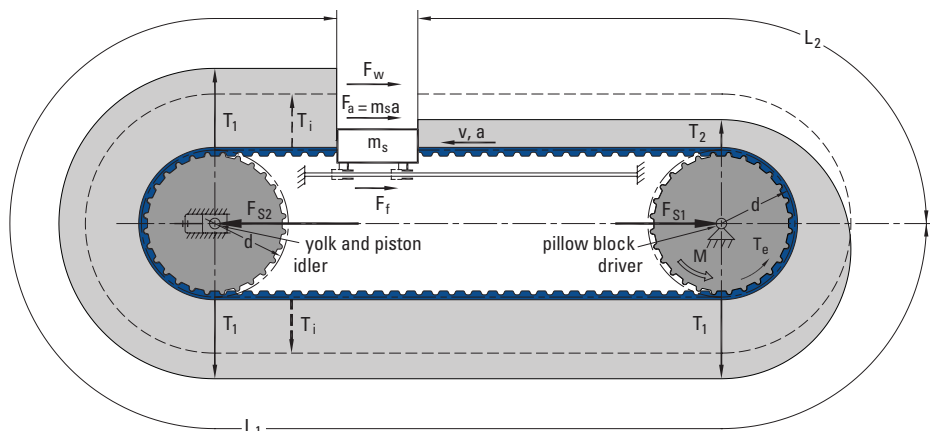

Fig. 3
T_e for a linear positioning application is primarily the sum of the following six factors (see Fig. 3).
2. The friction force F_f between the slide and the linear rail is determined experimentally, or from data from the linear bearing manufacturer. Other contributing factors to the friction force are bearing losses from the yolk, piston and pillow blocks (see Fig. 3).
(see Fig. 3)